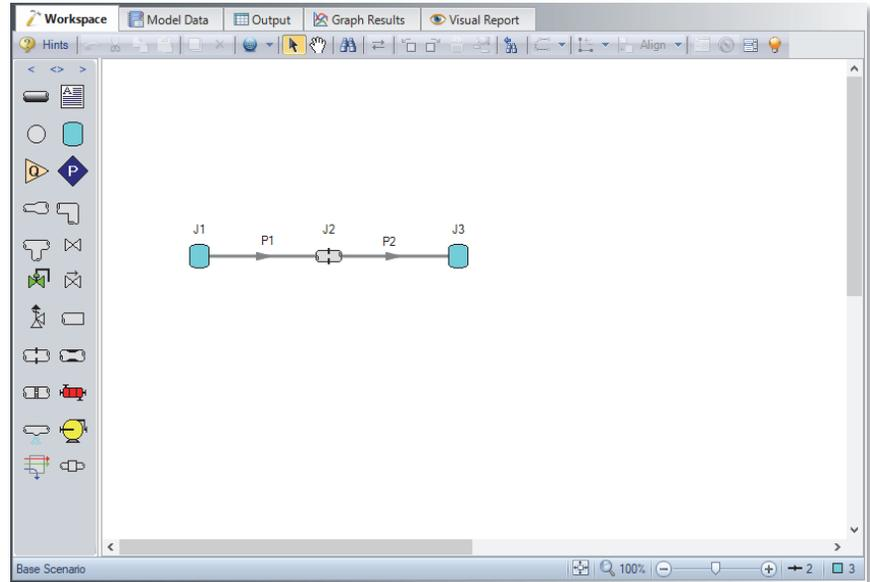

Figure 2.5f Walk through model with all pipes and junctions placed
- **Activate the Pipe Drawing Tool again**, position the mouse pointer on the J2 Orifice, then press and hold the left mouse button. Stretch the pipe across to the J3 Tank, and then release the mouse button. Your model should now look similar to Figure 2.5f.